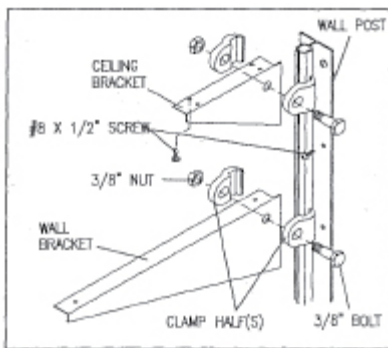

Figure 11
B. Temporarily install ceiling bracket with (2) clamps halves, (1) 3/8" x 1-1/4" bolt and (1) 3/8" nut at top of standard. Hold ceiling bracket in
against ceiling panels and mark the (4) mounting holes with marker. Drill $3/32$ " holes and install ceiling bracket with (4) #8-1/2" screws and previously mentioned clamp. See figure 11.